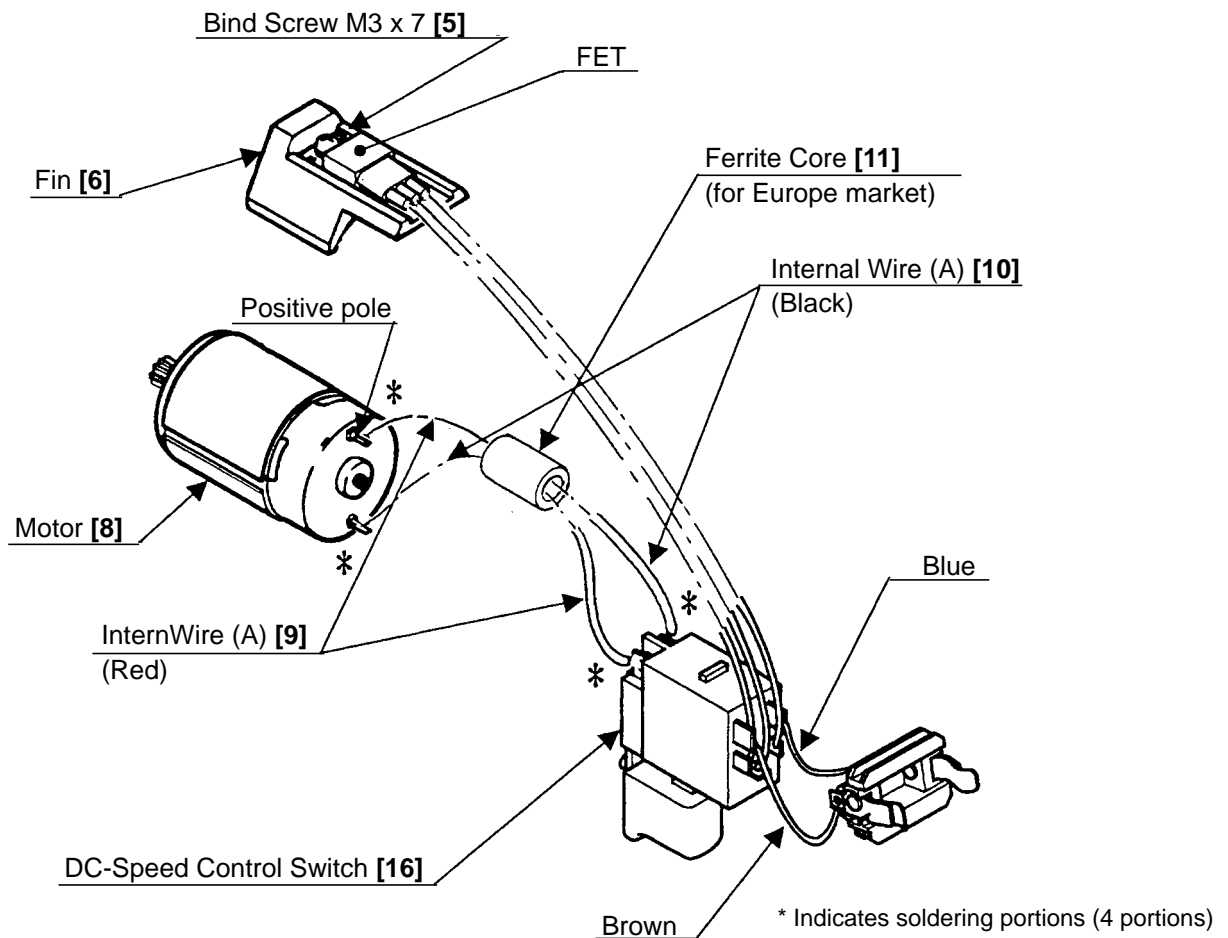

Fig. 4
(1) Ensure that the wiring of the Model DN 12DY is connected as shown in the diagram in Fig. 4.